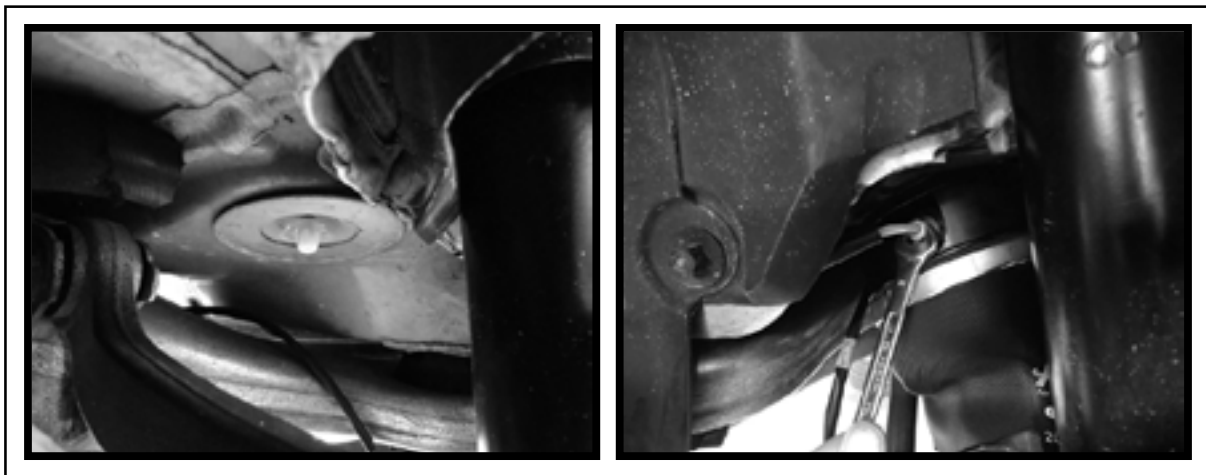

FIGURE 10-38
22.0 ENGAGE TOP CLIP, AND INSTALL AIR LINE. (FIGURE 10-38)